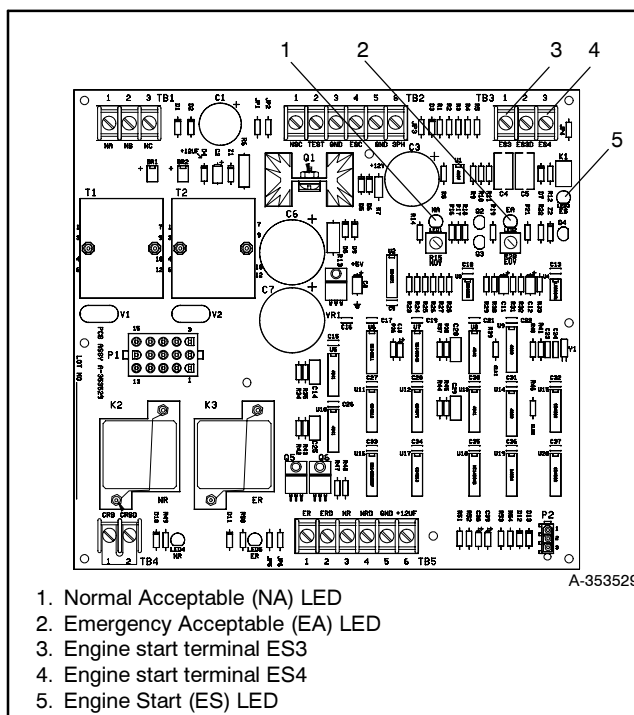

Figure 5-5 Controller Terminals and LEDs
The transfer switch controller provides a contact closure across terminals ES3 and ES4 to signal the generator set to start. See Figure 5-5. The location of the terminal block is marked by an orange decal within the enclosure.
2. Connect the generator set remote engine start signal inputs to the engine start terminals ES3 and ES4 on the transfer switch controller circuit board. See Figure 5-5.